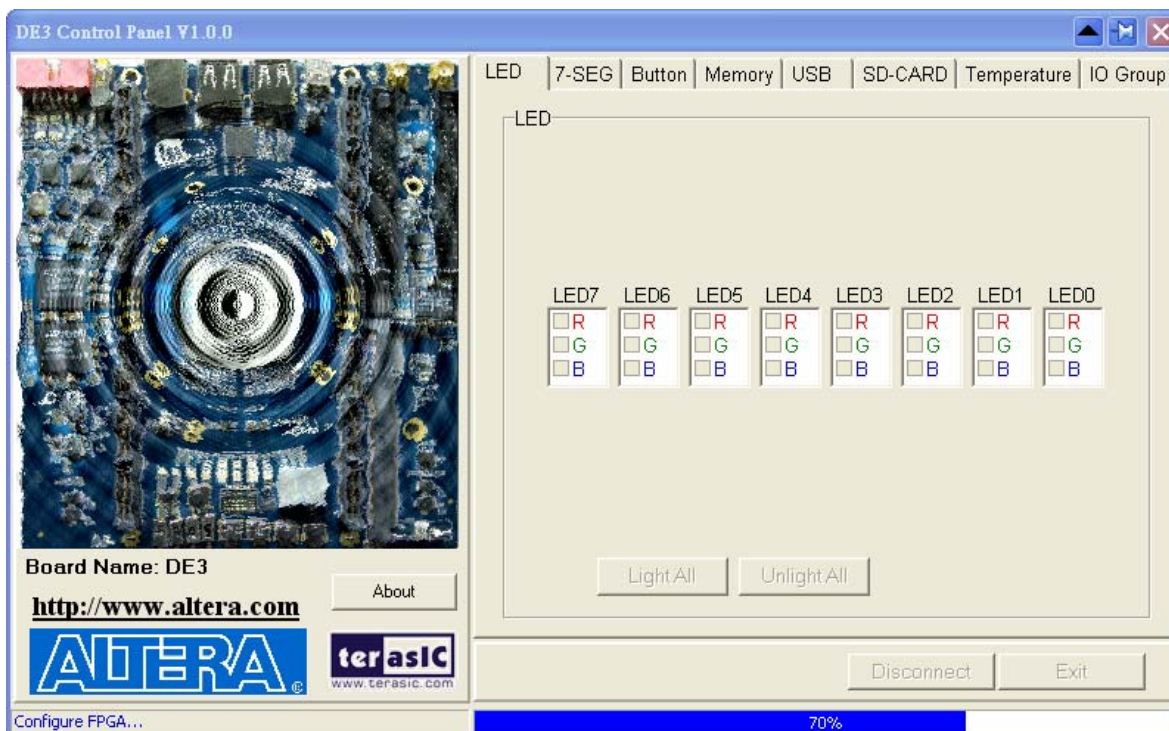

Figure 3.2. Download .sof and .elf files to the DE3 board
3. Start the executable *DE3\_control\_panel.exe* on the host computer. Figure 3.2 will appear and the Control Panel starts to auto-detect the FPGA and download the *.sof* and *.elf* files.